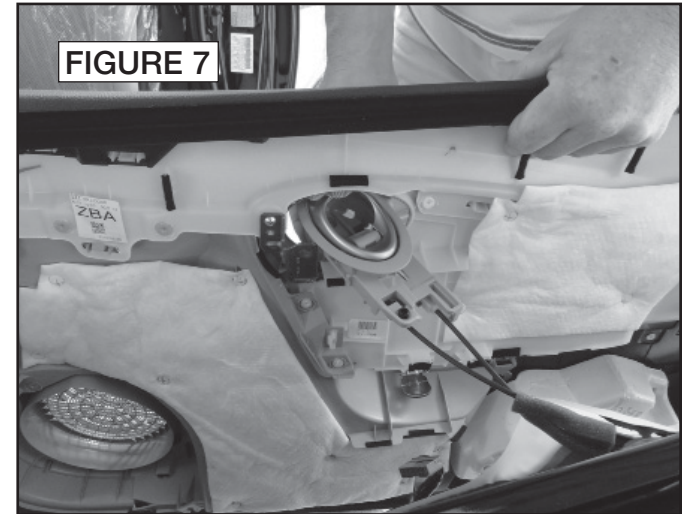

FIGURE 7
7. Pry out sides and bottom of door panel to release eight (8) clips. Work door release assembly through opening in door panel. Twist courtesy light bulb to remove. Pry out courtesy light harness clip and remove door panel (Figures 7 & 8).
7. Remove three (3) 10mm bolts and one (1) 10mm nut securing **subwoofer enclosure**. Disconnect wiring harness and remove enclosure (Figures 7 & 8).